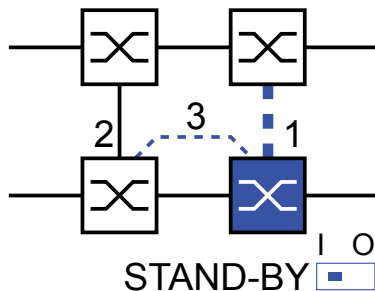

Figure 24: Two-Switch coupling with control line
- ☐ Select two-Switch redundant coupling with control line (see fig. 24).